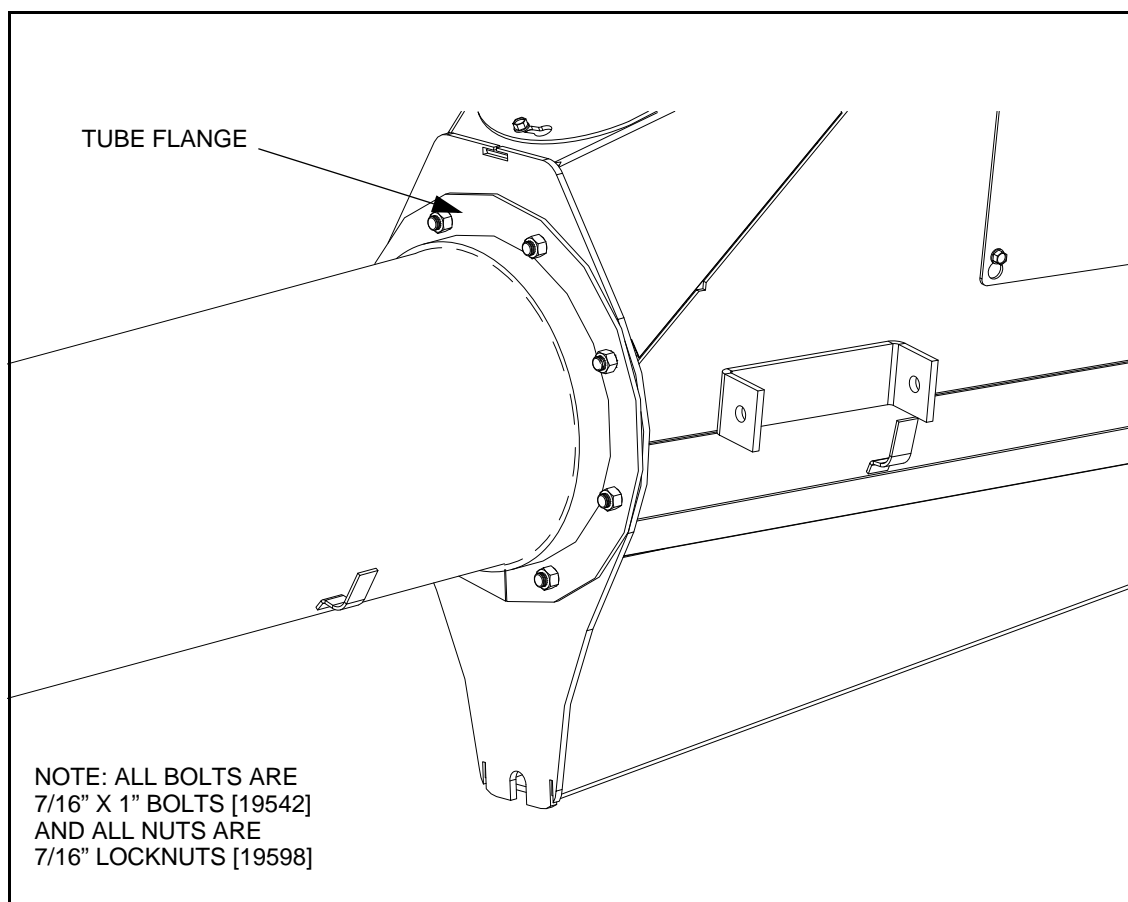

Figure 3.13 Install Boot on Auger Tube
2. Slip the boot assembly over the lower flighting shaft and attach it to the flange on the lower tube with eight 7/16" x 1" bolts and locknuts (see Figure 3.13).